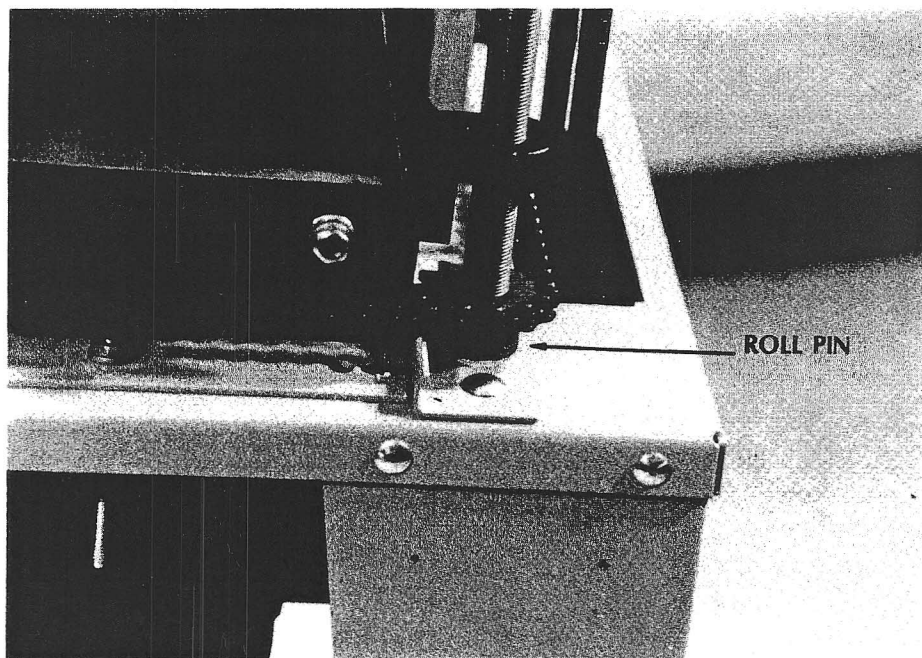

Fig. 11
4. Drive roll pins out of all RS-4 corner sprockets. (fig. 11)